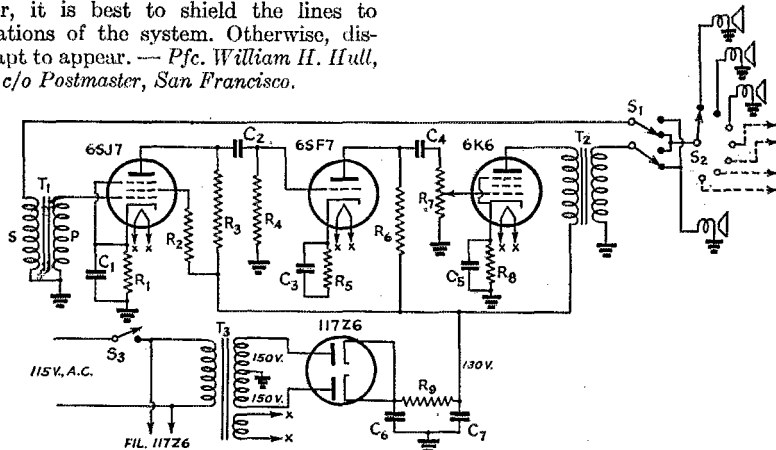

Fig. 5 — Circuit diagram of the GI two-way intercommunication system.
**BELIEVE** it or not, there is a "Little Rock" in the central Pacific ocean which boasts a modern intercommunication system. The circuit diagram of the "Mechanical Rat," as we call it, is shown in Fig. 5. I designed it and built it from such parts and tubes as were available for our use. While I am not at liberty to disclose the specific types used, the principle and the circuit are in no way restricted, and it will operate with the tubes and constants shown in the diagram.